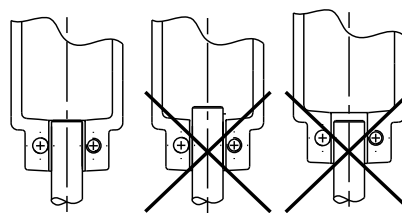

Fig. 4 Fitting coupling
14. Cross-tighten screws (pos. 28).
15. Fit coupling (pos. 8), according to figs 4 and 5, and tighten screws (pos. 9).